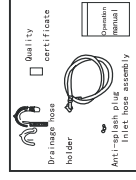

Fig. 1
- Check attachments and materials with reference to the following, as shown in Fig. 1.